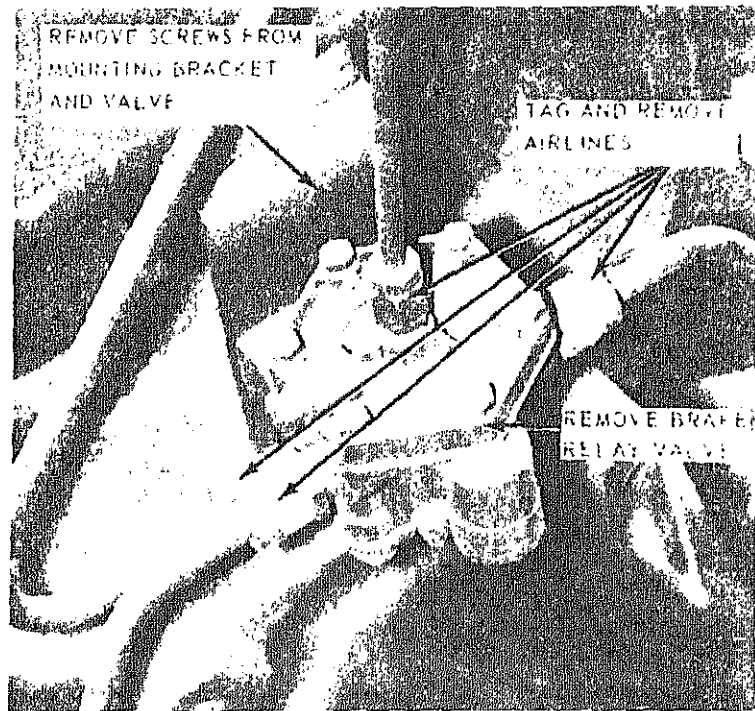

Figure 4-40. Brake relay air valve, removal and installation.
a. *Removal.* Remove brake relay air valve as illustrated in figure 4-40.
(1) Clean with a cloth and dry thoroughly.
(2) Inspect parts for cracks, breaks or
c. *Installation.* Install brake relay air valve as illustrated in figure 4-40.